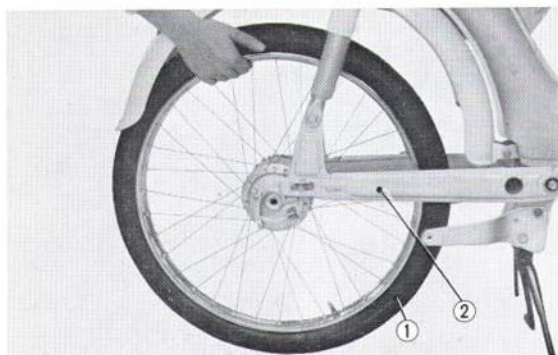

Fig. 4.28
5. Push the rear wheel slightly forward and then, tilt the motorcycle slightly toward one side to remove the rear wheel. **(Fig. 4.28)**